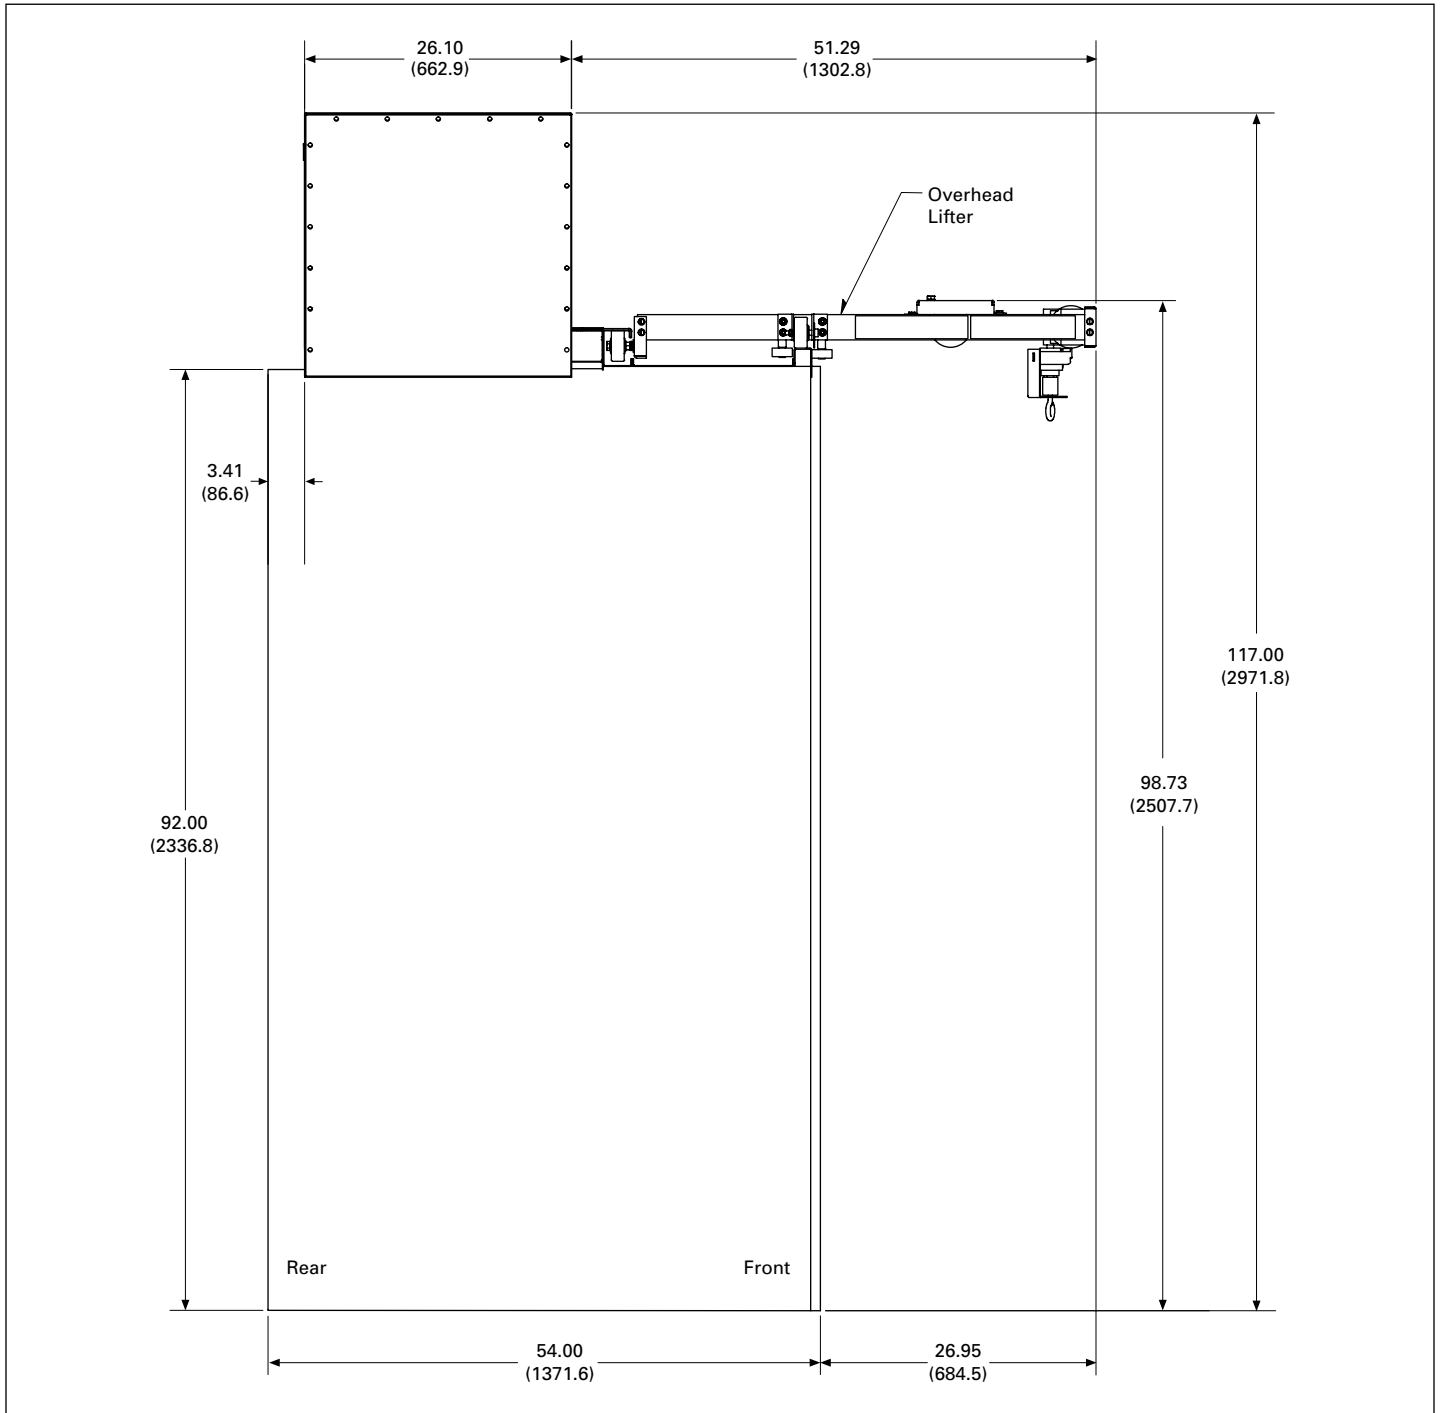

Figure 20.4-8. Arc-Resistant Switchgear Side Elevation (Front-Access) with Plenum—Dimensions in Inches (mm)
① See Figure 20.4-8 Arc-Resistant Switchgear Side Elevation (Front-Access) with Plenum.